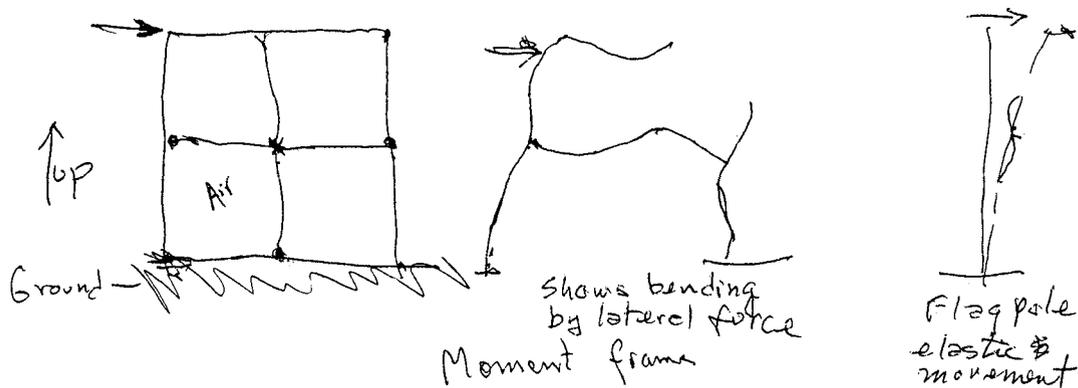

Figure 1
be in other shapes. If you just take some beams and columns and you make rigid joints (Figure 1)—if you put a lateral load on that, because of the stiffness, because of the way these things bend, there's a resistance to bending, a resistance to the lateral force that is trying to push it out of square, as these things are rigid.
**Degenkolb:** That's right. You're putting a load here (horizontal arrow in Figure 1) and you can see—if it were a flagpole it would bend over like this. But then as you put a horizontal beam in here that prevents this rotation, it puts this kink in it, that kink in turn bends the beams into an S-shape. It's a little difficult to draw because there's a reverse curve. This is moment frame action. It's based on changing a rigid rectangle into a squashed shape. Now if you took that same frame and these were all hinges—if the corner joints were hinges—it would just collapse.
Traditionally, in the real old buildings, which used to be the steel buildings—engineers would design a wall like that in Figure 1, moment frame with semi-rigid minor connections designed for a portion of the wind load, or maybe not even designed for wind. But because the buildings were built with infilled
**Degenkolb:** Yes. With the advent of the curtain wall this (Figure 1) became the popular way of providing earthquake resistance, because the architect could have nice clean open spaces—the architect didn't have to worry about [interior bearing] walls. He could arrange partitions wherever he wanted and it wouldn't affect the structure. However, the system in Figure 1 is very flexible. In the Morgan Hill earthquake, in the EERI report there was a description of the Santa Clara County office building, which has this system in steel—about a 10-12 story building. The five seconds of shaking caused the building to shake for 87 seconds, because of very low damping. It had a lot of deflection.
**Degenkolb:** Partly because we've talked a lot about the comparison between the Banco Central [Managua] which was a Figure 1-type building, and the Banco de America [in Managua], which was a shear wall building (Figure 3), and was so much stiffer that it had much less damage.
ings. Another of the big concerns is the attachment—with the change from the masonry walls of the older style buildings, or concrete walls or stone-faced concrete or brick. We've changed to lightweight curtain walls, the precast concrete, which generally is used on moment frame buildings (Figure 1), with the walls just hung on. As this type deflects a lot, the chances are greatly increased that the clothing of the building will fall off.